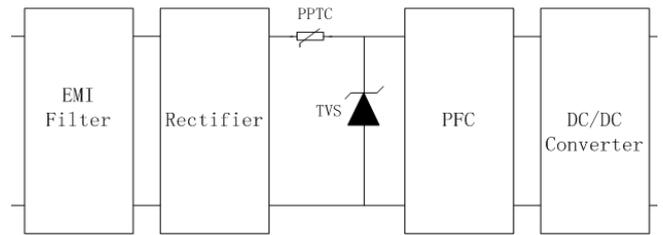

Figure 3: Protection circuit after AC/DC conversion
2. After AC/DC conversion, measures should be taken to protect sensitive IC chips. As shown in figure 3, TVS
very large when subjected to over-current, blocking the current flow, and return to its normal low-resistance condition after the over-current is removed, thus the circuit returns to normal operation. When selecting TVS device, the reverse stand-off voltage should be about 1.2~1.4 times the peak normal circuit voltage; the power should be chosen based on the surge energy. Factors affecting the selection of PTC include operating current, voltage and environment temperature. The holding current of PTC reduces as the temperature rises. As shown in Figure 3, PTC is usually connected before TVS. In this way, PTC can protect ICs and at the same time, form some certain level of protection to TVS. The service life of TVS can thus be prolonged.